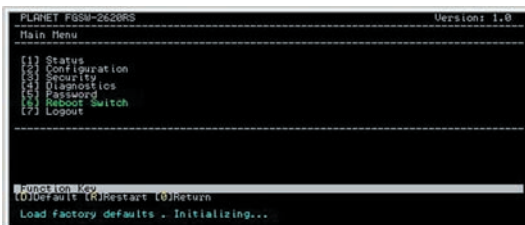

Figure 3-26 Reset Switch to default mode Screen
1. Please press "D" key to reset switch to default mode, the screen in figure 3-26 & 3-27 appears.